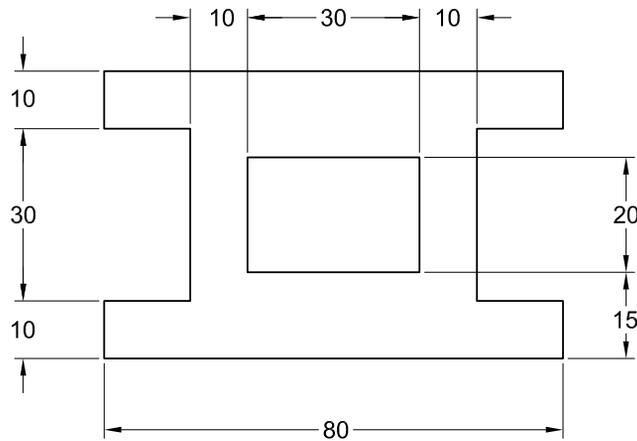

Figure 3-48 Dimensioned sketch for Tutorial 1
In this tutorial, you will draw the sketch shown in Figure 3-48. This sketch is the same as the one drawn in Tutorial 2 of Chapter 2. After drawing the sketch, you will add the required constraints and then dimension it. **(Expected time: 30 min)**
- Using the **Line** and **Two point rectangle** tools, draw the required sketch similar to the one shown in Figure 3-48. You do not need to draw the sketch to the exact length. Use the temporary tracking option for drawing the sketch. For your reference, all lines in the sketch are numbered, see Figure 3-49.